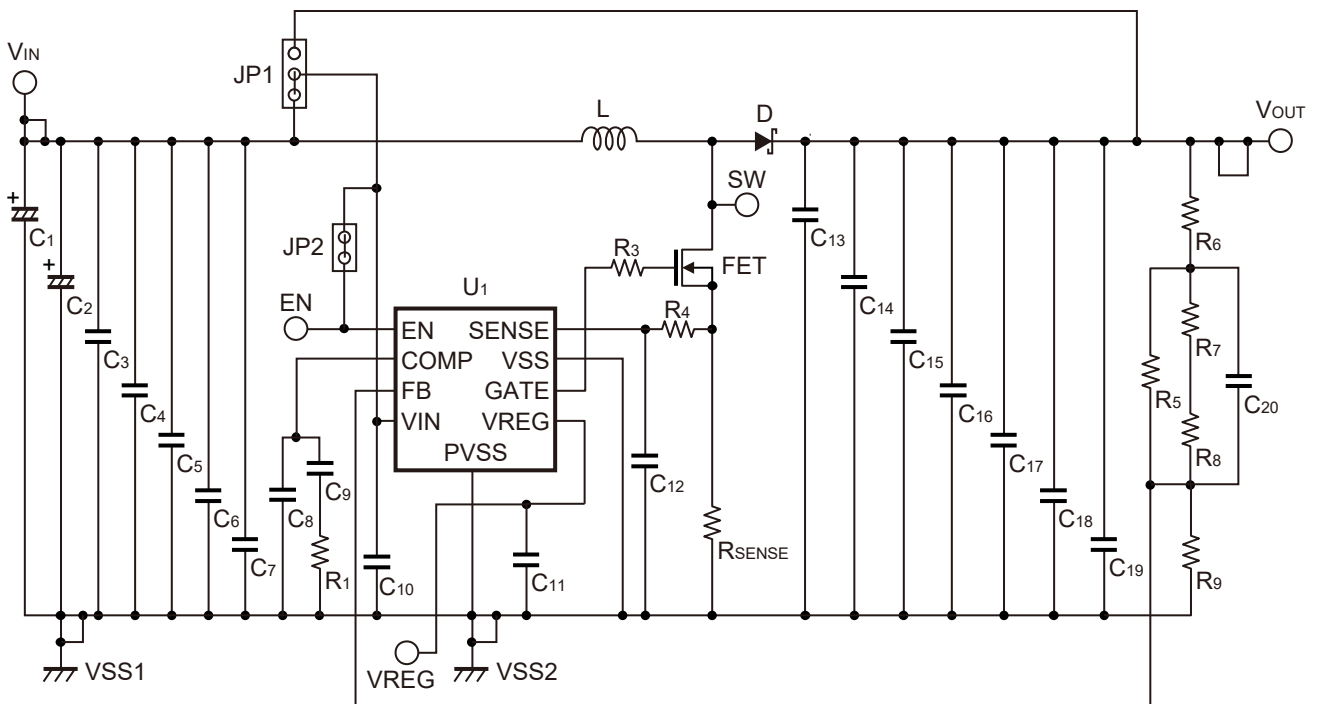
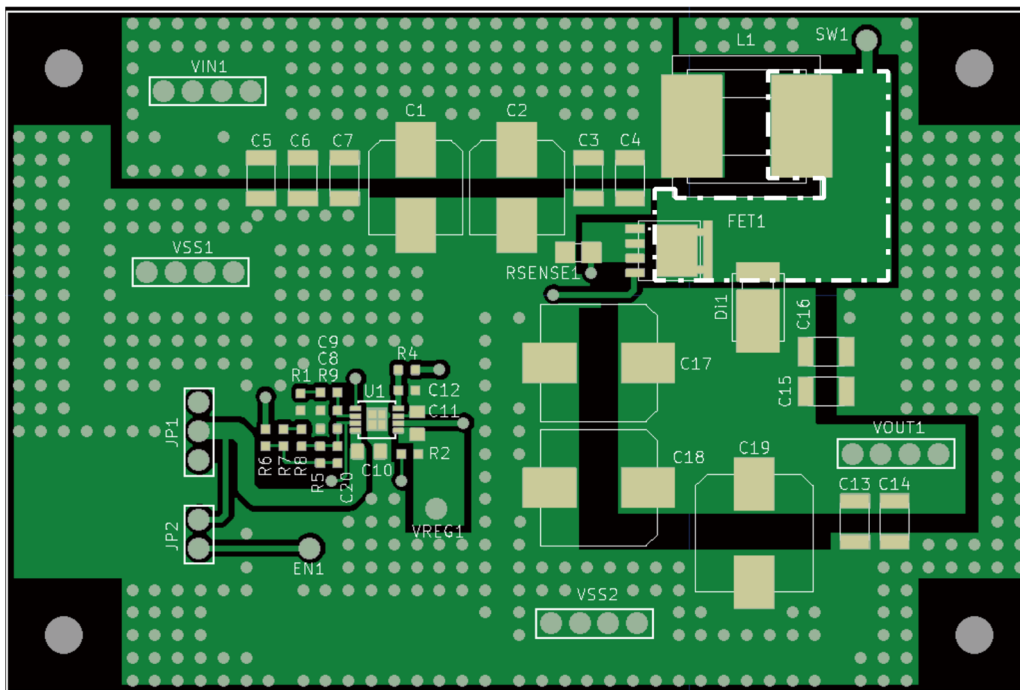
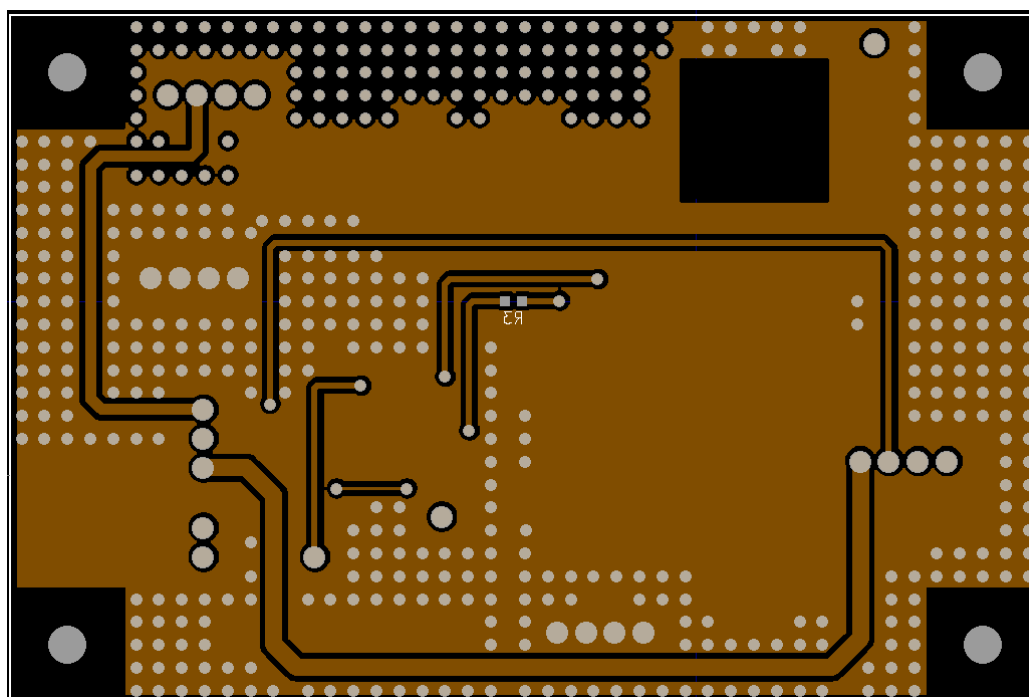

Figure 4
Figure 5 Top Layer (First Layer)
Figure 8 Bottom Layer (Fourth Layer)
Figure 4 shows the circuit diagram of a step-up application created by ABLIC Inc.
Table 4 shows external components used in the connection examples: Figure 4.
The board we have created for the application circuit diagram in **Figure 4** has four layers, which are shown in **Figure 5** to **Figure 8**.
- The SW wiring area (Dashed line area in "**Figure 5 Top Layer (First Layer)**") should be as small as possible to reduce high-frequency radiation noise.
- All copper foil on the back of the inductor (L) should be removed to avoid losses due to eddy currents.